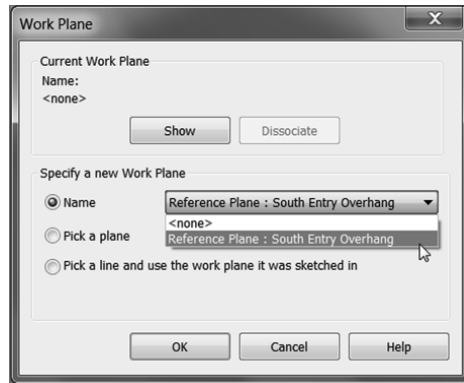

FIGURE 7.50: Selecting the South Entry Overhang reference plane
2. When you start the command, Revit asks you to specify a reference plane. Select Reference Plane: South Entry Overhang from the Name drop-down list, as shown in Figure 7.50.